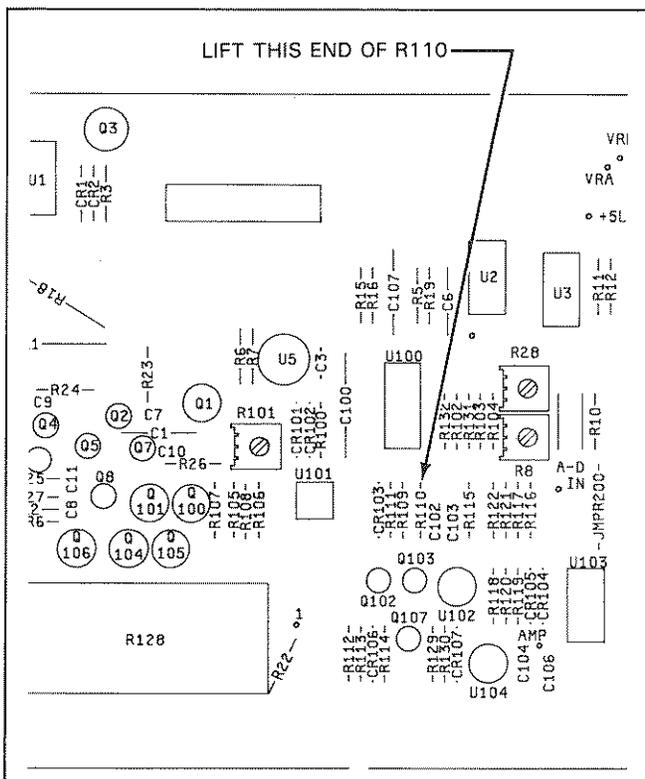

Figure 8-C-2. Removing R110
7. Unsolder and lift one side of R110 from the printed circuit board, as shown in Figure 8-C-2.